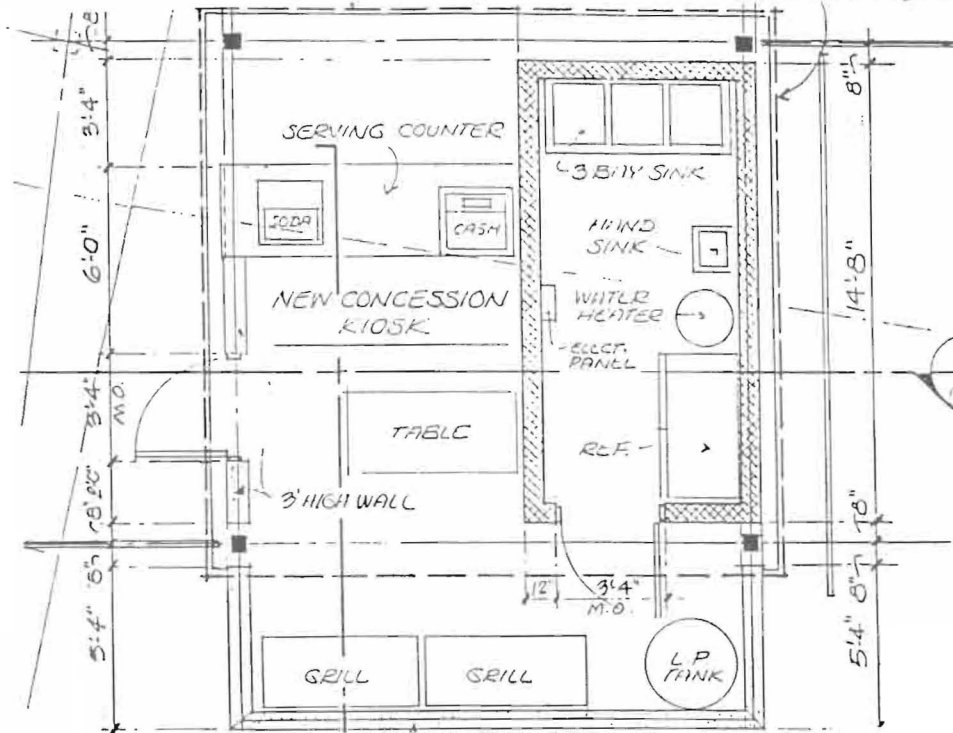

Figure 1. Typical Floor Plan
- For new construction, structural alterations, or additions, plans showing structural details must be provided. Minimally they should include foundation plans, including drainage and support column spacing framing details, floor plans and a cross section. (See Figures 1, 2 & 3)